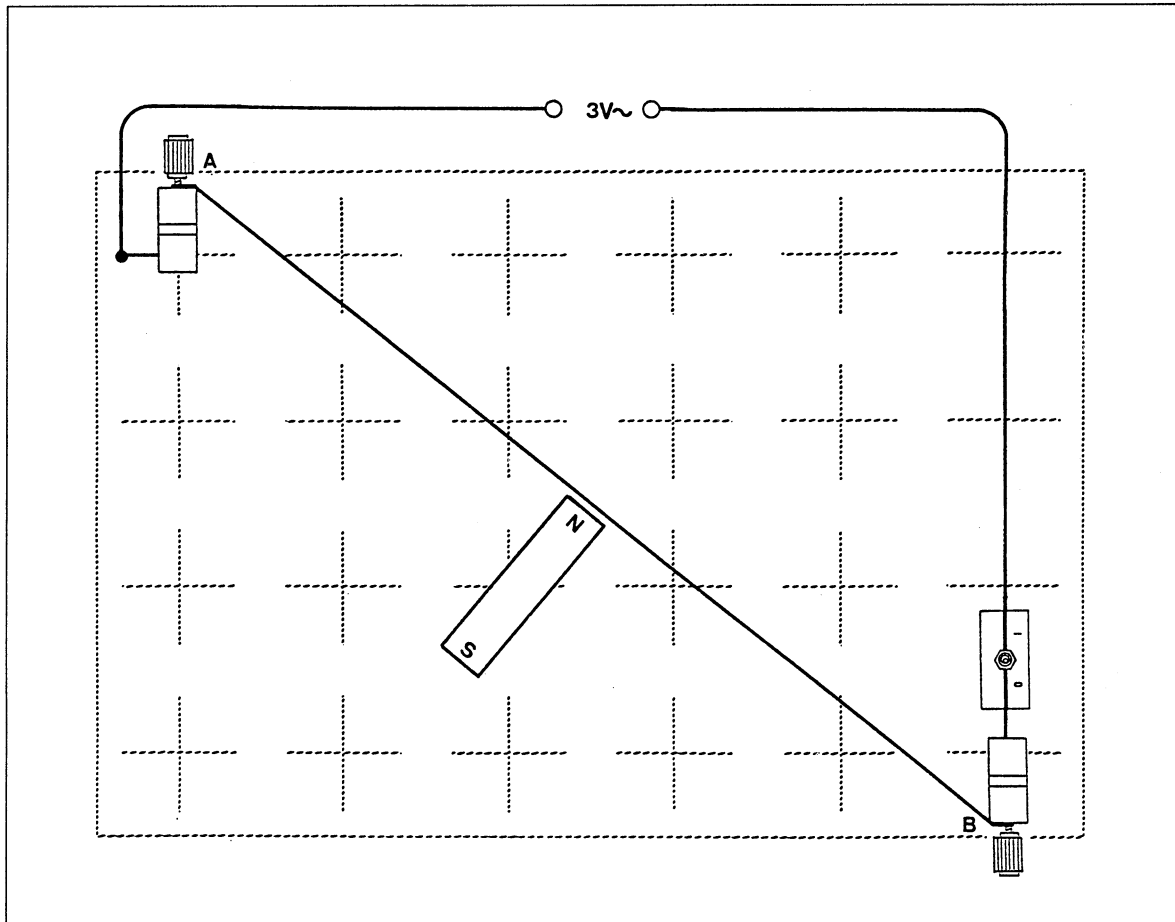

Fig. 2 A wire carrying alternating current in a magnetic field
► Fig. 2
7. Attach the constantan wire to the screws of two plug-in holders so that there is a little slack in the wire (► A and B in Fig. 2)
8. Move the bar magnet to a distance of 1 mm from the middle of the wire, as shown in Fig. 2.